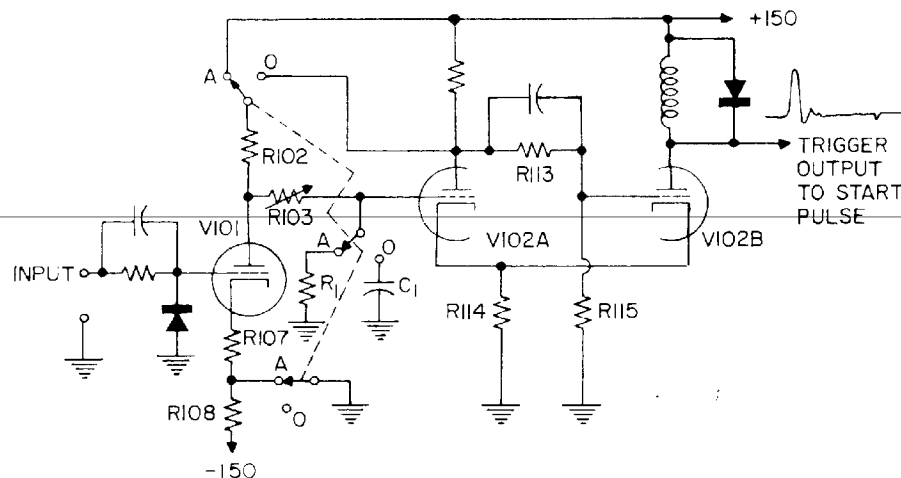

Figure 3-1. Simplified schematic diagram of PRF oscillator and input circuit system.
3.1.1 EXTERNAL OPERATION. Figure 3-1 is a simplified schematic diagram of the PRF oscillator and input circuit system. Let us first consider the circuit as an aperiodic input circuit, i.e., with the PRF switch set at EXT DRIVE. V102 is a Schmitt circuit. If the grid voltage of V102A is less than, say, 45 volts, V102A will be off and V102B will conduct. R113 and R115 set the grid potential of V102B at about 48 volts. The common cathode potential is about 50 volts. If the grid voltage of V102A is now increased to over 45 volts, this tube will turn on. The resulting drop in its plate voltage switches V102B off. As V102B turns off, its decreasing plate current lowers the common cathode voltage, further decreasing the bias of V102A. This action is therefore regenerative. V102A turns on and V102B off, both very rapidly.
A positive pulse is required to trigger the pulse-forming circuits and start the output pulse. This pulse is produced when V102B turns off. V102A must therefore be turned on by a positive-going grid voltage. Therefore the grid of V101A must be driven negative to start the output pulse. These polarities and levels are shown in Figure 3-1.
3.1.2 INTERNAL OPERATION. In Figure 3-1, S101, the PRF switch, is shown in the EXT DRIVE position. Setting this switch to any of the other positions converts the input amplifier and Schmitt circuit into the PRF oscillator. No important circuit changes are made in the Schmitt trigger. S101 converts the input amplifier to a current source, which translates the plate swing of V102B so that it is symmetrical around its own grid voltage. The switch ungrounds the junction of R107 and R108 and switches R102 from the plate supply voltage to the plate of V102A. The PRF control (R103) and R102 together are the resistance in the frequency-determining network, while the PRF switch adds capacitance from the grid of V102A to ground. The mechanism of oscillation may be seen from Fig-